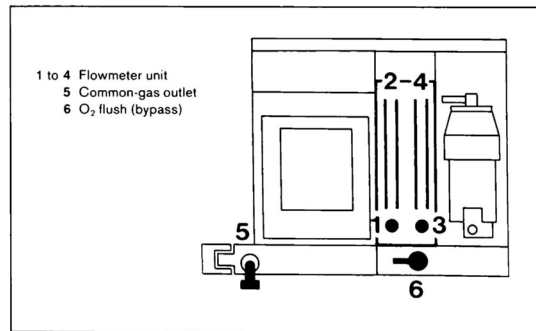

Fig. 14 Sullia 808 V
5.1.1 O₂ supply (Fig. 14)
N₂O supply (Fig. 14)
5.2 Checking type of gas (Fig. 14)
O₂ flush (bypass) (Fig. 14)